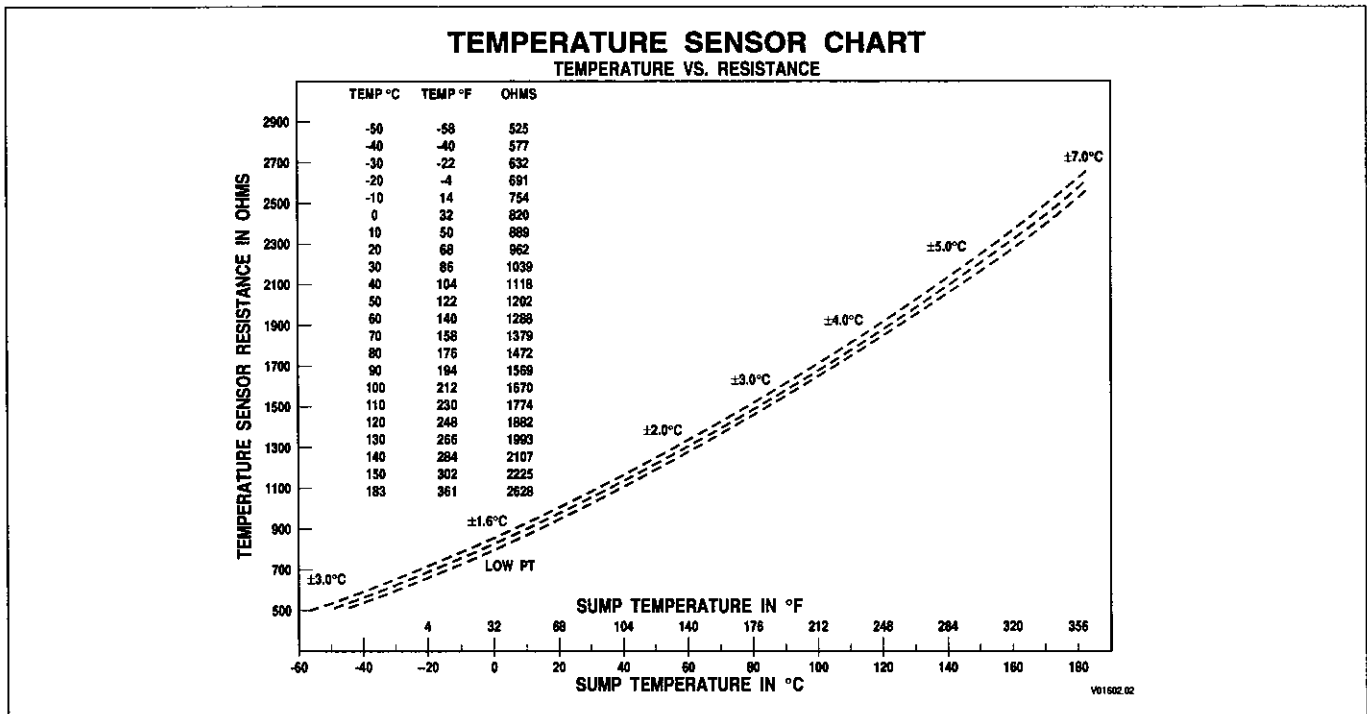

Figure 6-8. TransID 1 Temperature Sensor Chart
2. If ambient temperature does not match the sump temperature reading (check using diagnostic tool), compare resistance versus sump fluid temperature (refer to Figure 6-8 for TID 1 thermistors and Appendix Q for TID 2 thermistors). Then check the sensor wiring for opens, shorts, or shorts-to-ground.
2. If the fluid is not hot when the code is produced, remove the transmission "T" harness connector at the ECU and the transmission. Check the fluid temperature sensor wiring for opens, shorts, and shorts-to-ground. Compare the resistance readings of the sensor and the actual temperature as shown on the gauge with Figure 6-8 for TID 1 thermistors and Appendix Q for TID 2